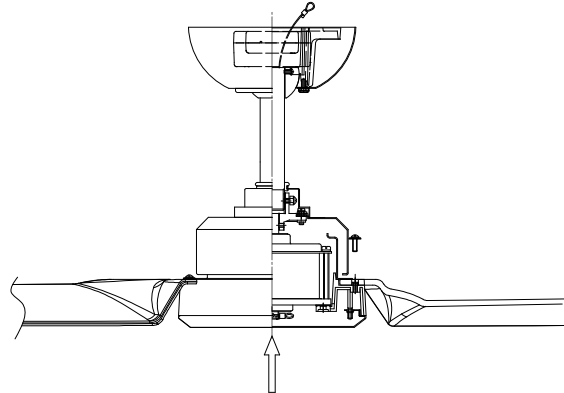

FIG.10
1. Press decorative plug into center hole of bottom housing (**FIG.10**).